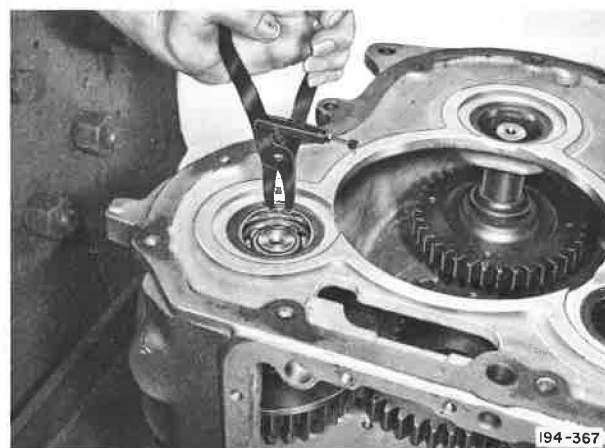

Figure 5-167. Installing Compound Counter-Shaft Rear Bearing Retaining Snap Ring
13. (TRDXL1070) Install compound counter-shaft rear ball bearing retaining snap ring in groove provided in compound case. See Figure 5-167.